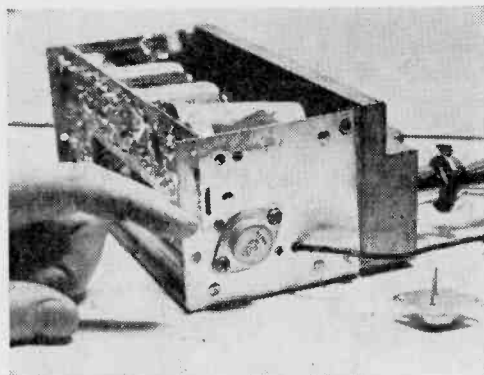

Fig. 9. Power output transistor is the big one, maybe two in push-pull, mounted on side or back of radio chassis.
**Power Transistor Replacement.** The power output transistor is found mounted on a metal heat sink or on the outside of the receiver case. Sometimes the power transistor is insulated with a clear piece of insulation material. Take a second glance because the thin piece of insulation should be replaced when mounting a new power transistor—see Figs. 9 and 10. Otherwise, you have a